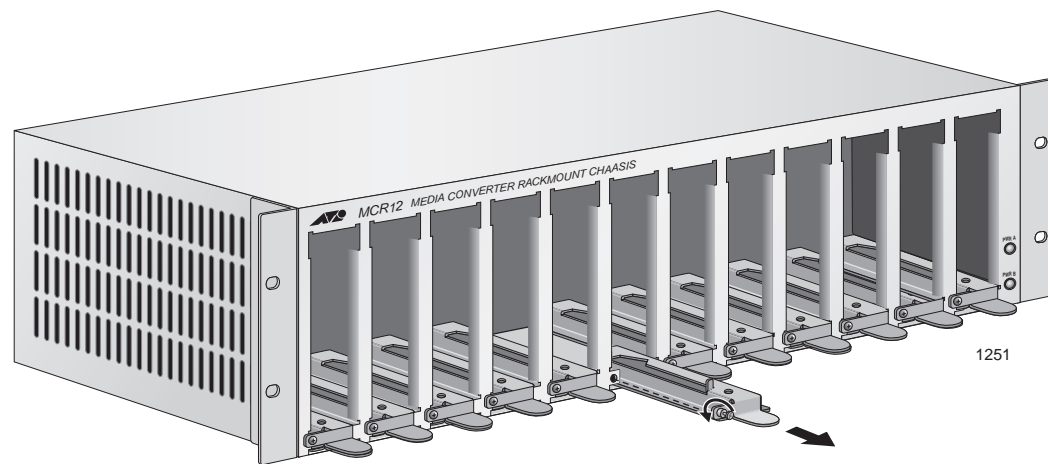

Figure 6. Removing the Mounting Rail
2. Loosen the captive screw that secures the mounting rail in the MCR12 chassis, and remove the mounting rail by sliding it out, as shown in Figure 6.